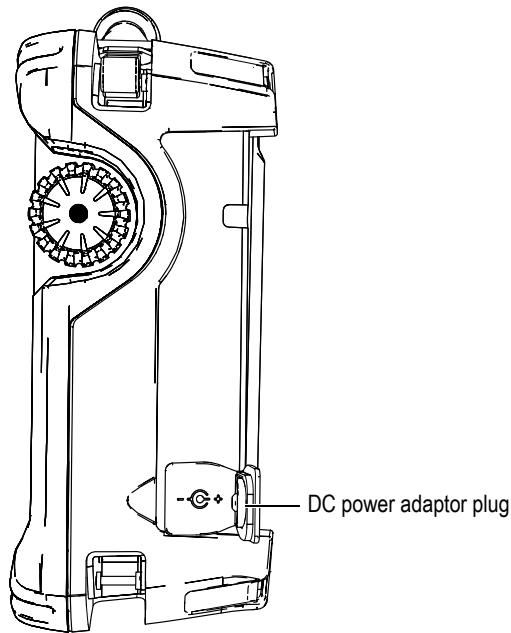

Figure 3-4 OmniScan SX DC power adaptor plug
2. On the right-hand side of the OmniScan SX, lift the rubber seal covering the DC adaptor connector plug (see Figure 3-4 on page 45).
3. Connect the DC power adaptor to the OmniScan SX DC power adaptor plug (see Figure 3-4 on page 45).